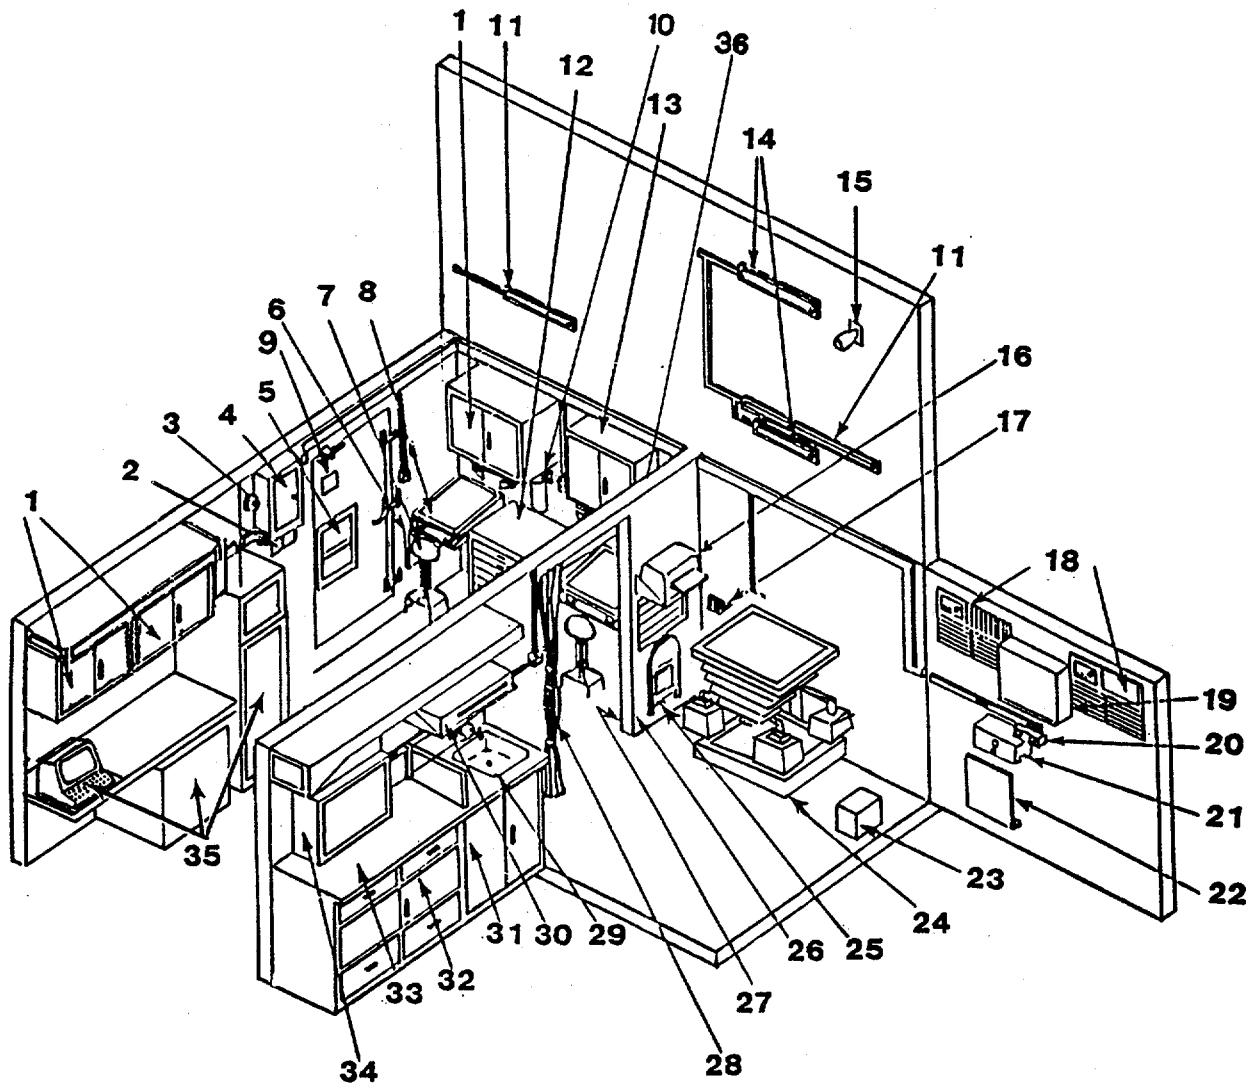

Figure 1-3. Location and Description of Major components, Editorial Shelter, Interior
b. Editorial Shelter Interior. Refer to Figure 1-3 for location of major components.
- (1) Wall Cabinet (1). Used to store paper and other supplies.
- (2) Main Power Receptacle Assembly (2). Provides connection between main power cable and main power service box.
- (3) Blackout Warning Buzzer (3). Along with exterior blackout switch provides a blackout warning system.
- (4) Main Power Service Box (4). Contains circuit breakers and distribution terminals for shelter electrical system.
- (5) Fresh Air Filter (5). A foam-type air filter permits filtered outside air to enter shelter when door is closed and exterior weather cover is open.
- (6) Drop-Off Box Assembly (6). Provides a means of receiving or sending copy material without opening the shelter door.
- (7) Stool (7). Used in conjunction with the light table.
- (8) Tilt Top Light Table (8). Provides a surface for preparing copy for making printing plates.
- (9) First Aid Kit (9). A general purpose 12 unit first aid kit.
- (10) Fire Extinguisher (10). A class 2-BC dry chemical type extinguisher suitable for all types of fire, with the exception of LO (liquid oxygen) generating equipment.